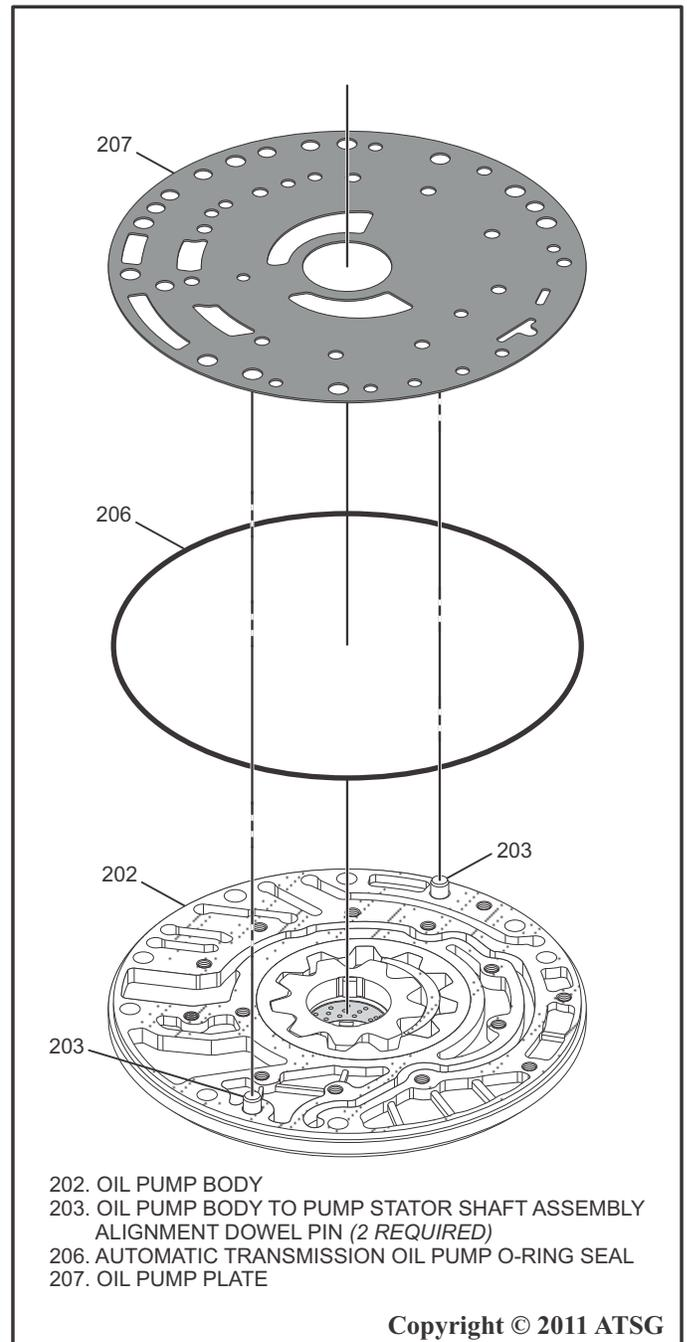

Figure 103
28. Install a new Oil Pump O-Ring Seal onto the Oil Pump Body as shown in Figure 103.
30. Install the Alignment Dowels and the Oil Pump Plate onto the Oil Pump Body, carefully aligning the holes in the Oil Pump Plate onto the Alignment Dowel Pins in the Pump Body as shown in Figure 103.